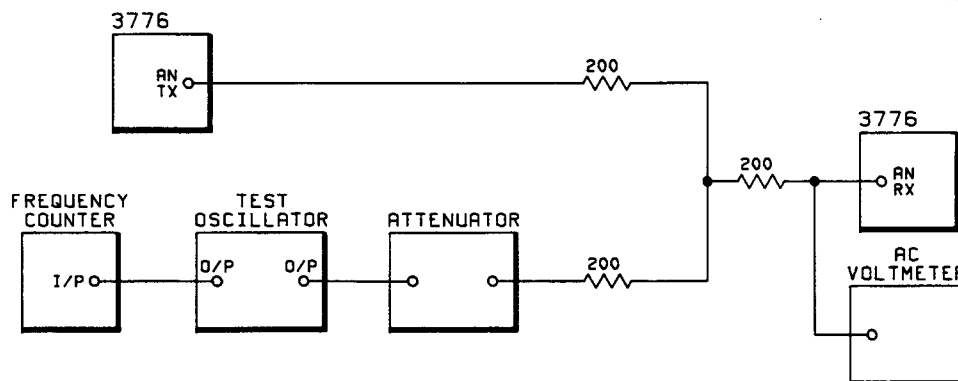

Figure 4-52 3776B Impulse Noise Threshold Range, Threshold Accuracy and Input Holding Tone Requirements Test Circuit
1. Connect up the test circuit as shown in Figure 4-52, with the ATTENUATOR set to 0dB.